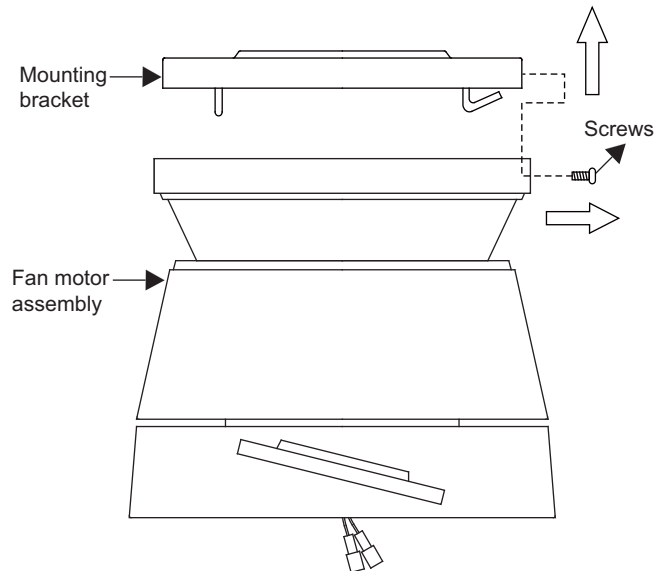

Figure 4
Step 1. Remove the mounting bracket from the fan motor assembly. (Fig. 4)